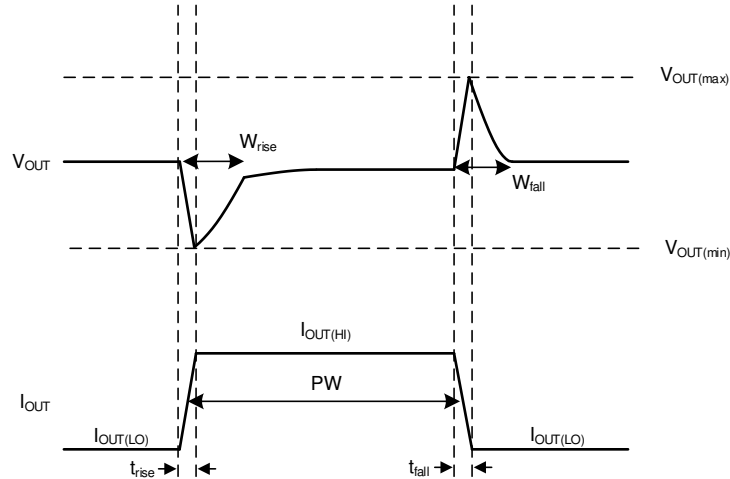

图 8-10. Simplified Load Transient Waveform
The transient response peaks ($V_{OUT(max)}$ and $V_{OUT(min)}$) are improved by using more output capacitance; however, doing so slows down the recovery time (W_{rise} and W_{fall}). 图 8-10 illustrates these parameters during a load transient, with a given pulse duration (PW) and current levels ($I_{OUT(LO)}$ and $I_{OUT(HI)}$).